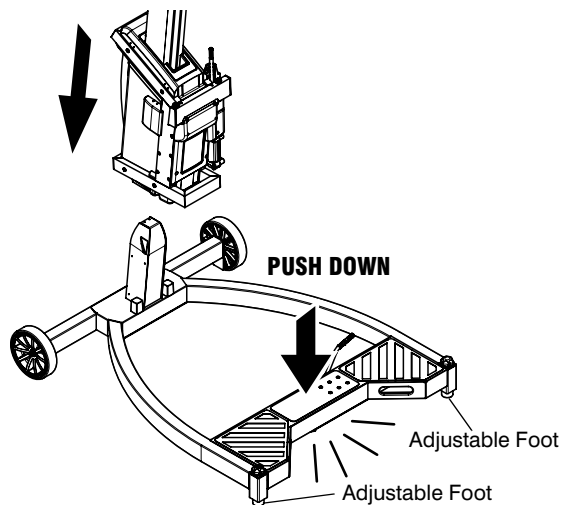

Figure 3-6. Carriage/mast to base mounting
2. Push down on the base frame's step plate until the swivel castor retracts and the base sits on the adjustable feet (Figure 3-6.). The machine now rests on the two rear wheels, and the two adjustable feet at the front.
Never force it into position (see Figure 3-6.).